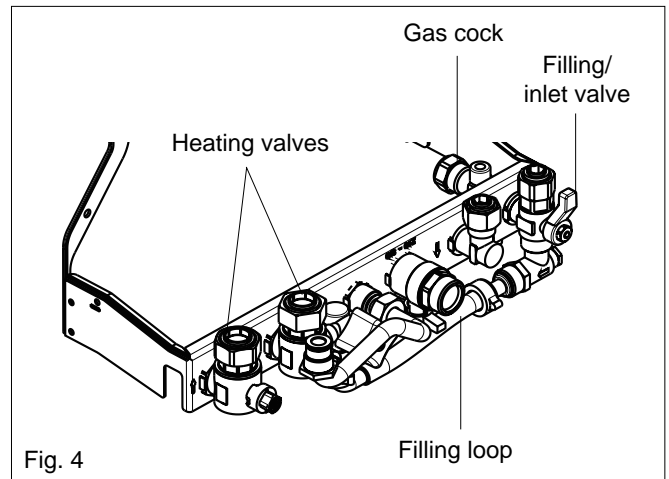

Fig. 4
### 3.1 HOW TO TOP-UP THE SYSTEM PRESSURE (fig. 4)
- Locate the filling/inlet valve found at base of the boiler (see fig. 4 & fig. 5).
- The filling loop (fig. 4) may have been disconnected from the filling/inlet valve and heating flow valve. If so reconnect unscrewing the caps as necessary.